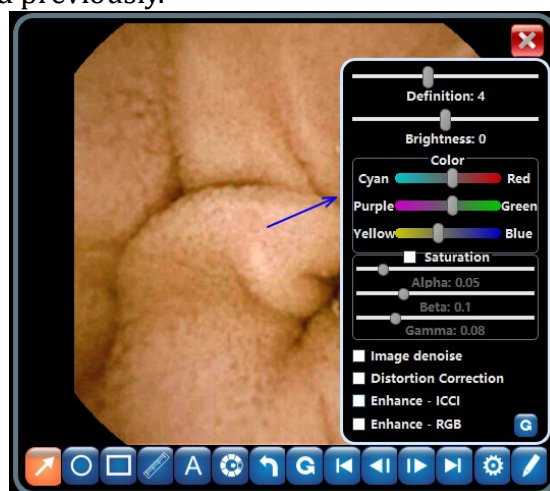

Figure 4-27: Image Processing Control Panel
5. As previously described, clicking  brings up the image processing control panel (Figure 4-27). The sliders and checkboxes function the same as those in the image processing control panel described previously.